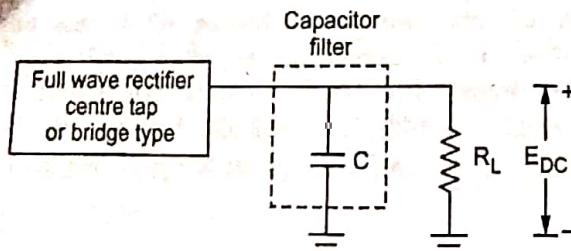

Fig. Q.26.1 Capacitor filter with full wave rectifier
- The Fig. Q.26.1 show the capacitor input filter with full wave rectifier.